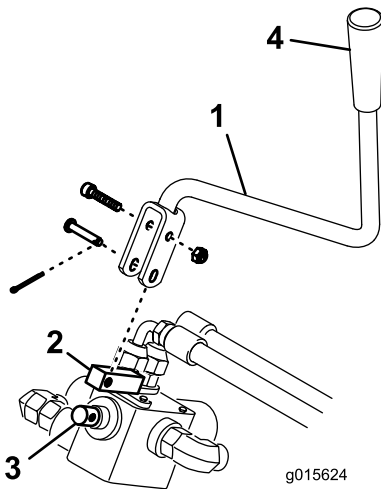

Figure 10
18. Mount the control valve handle to the valve spool with a clevis pin and cotter pin. Mount the pivot lever to the handle with a socket head screw and lock nut (Figure 10).
19. Install the control knob to the handle (Figure 10).